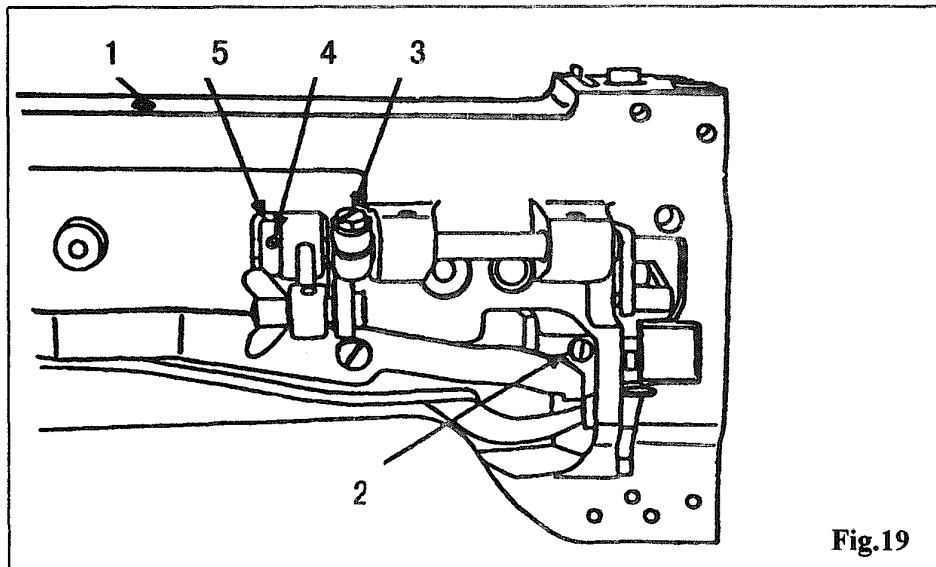

Fig.19
17. ADJUSTING THE HEIGHT OF THE PRESSER FOOT (Fig.19)
18. TIMING OF THE VIBRATING PRESSER FOOT (Fig.19)